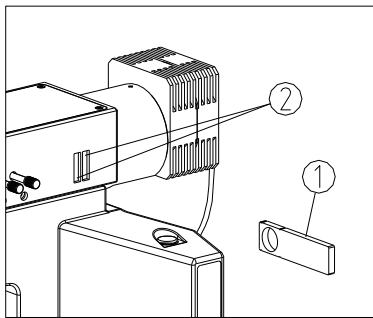

Fig.36
Insert the color filter (1) into the slot (2) of reflected illuminator forward. (See Fig. 36)